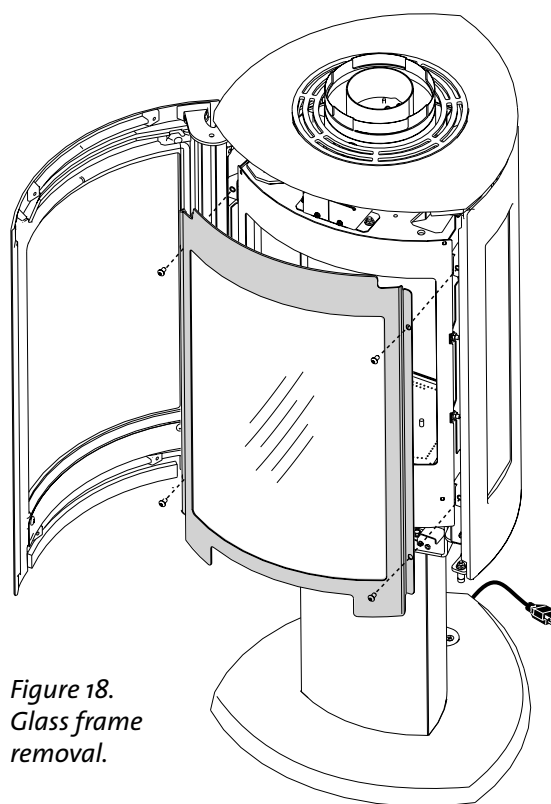

Figure 18.
To access the firebox, use the 4 mm hex key to remove the four socket head screws that attach the glass frame to the firebox. See fig. 18.
The power cord located in the valve compartment is connected to the Fan Control Module which is the main power supply for all stove operating functions. Route the cord through the pedestal and out the rear of the pedestal base as in fig. 18, or through the floor.
2. Remove the glass frame. See fig. 18.
3. Remove the glass frame. See fig. 18.